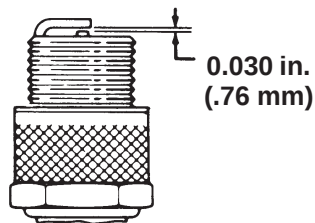

Figure 40
- Set the air gap between the center and side of the electrodes at 0.030 in. (.76 mm) (Fig. 40) Install the correctly gapped spark plug w/gasket seal, and tighten the plug to 200 in.-lb. (23 N·m). If a torque wrench is not used, tighten the plug firmly.